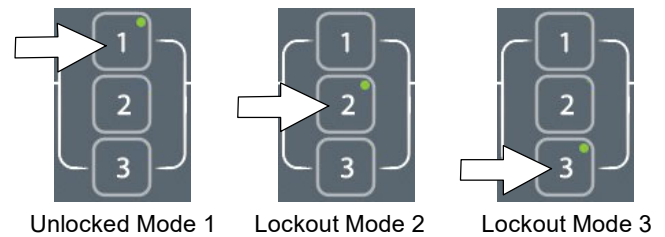

FIG. 141
2. Press and hold the brush pressure button while turning the key on. Release button when the far right battery discharge indicator LED turns on (Figure 140). After releasing button, the active supervisor control mode will display as described in step 3 (Figure 141),
3. To select or change a supervisor control mode, press and hold the specific zone control button until the LED blinks three times (Figure 141). After selection is made, the LED will turn solid to indicate new mode.